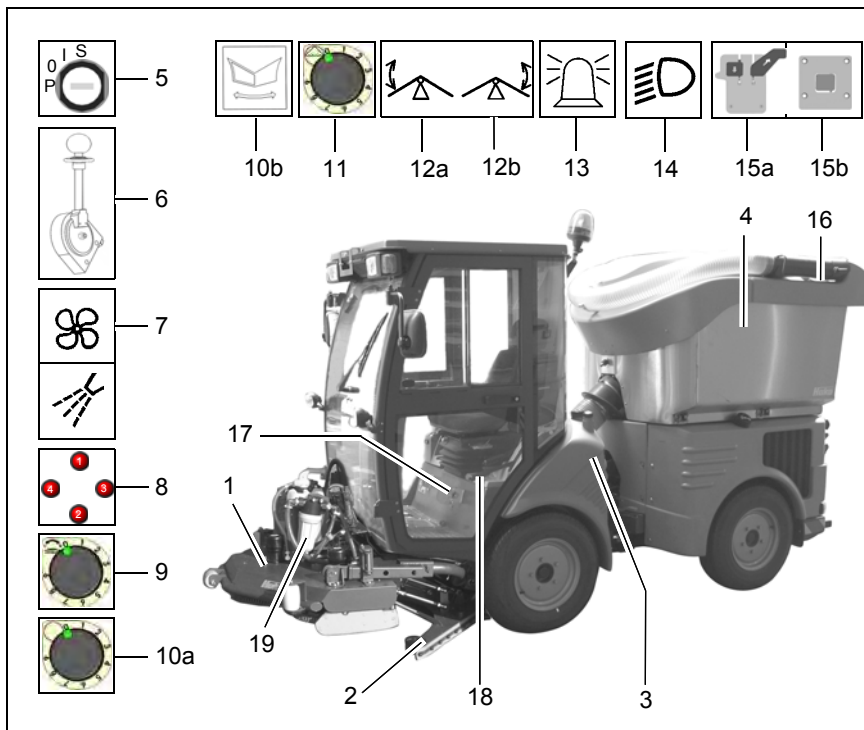

Fig.26
- If there is a blockage in the vacuum nozzle, use the auxiliary tool (Fig. 26/17) to carefully clean the vacuum nozzle, see paragraph 2.4.8.